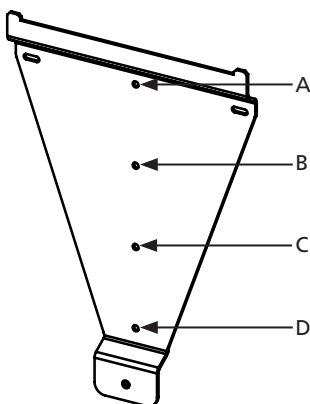

Figure 3-1 Small Mounting Bracket
- Has a vertical row of screw holes down the center and is designed for a single-stud mount. Refer to Figure 3-1.